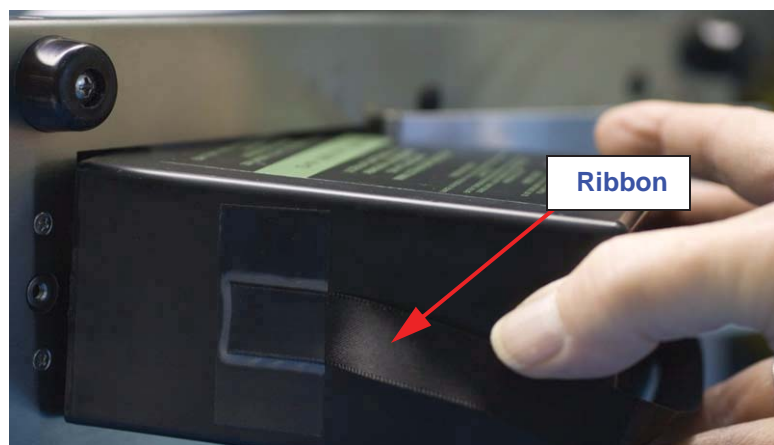

Figure 3-3 Inserting Battery
2. Insert the battery onto the compartment floor with battery ribbon facing out as shown in Figure 3-3.